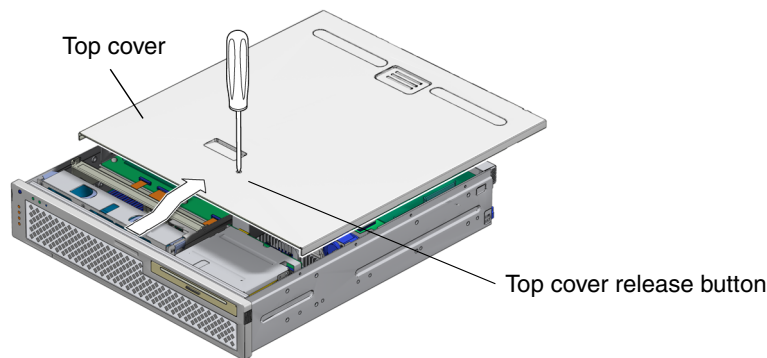

FIGURE 2-3 Top Cover and Release Button
1. Use a No. 2 Philips screwdriver to press the top cover release button (FIGURE 2-3).